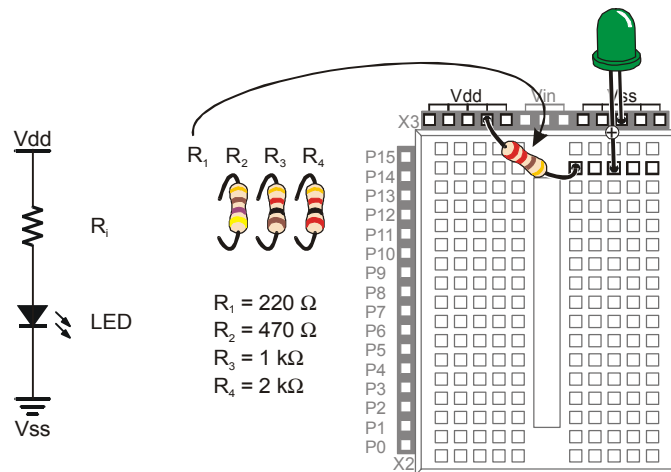

**Figure F-1**
The resistance value of  $R_i$  in Figure F-1 can be changed. Lower resistance allows more current through the LED, and it glows more brightly. Higher resistance values will cause the LED to look dim because they do not allow as much current to pass through the circuit.
- ✓ Start with the circuit shown in Figure F-1, but use a 1 k $\Omega$  resistor.